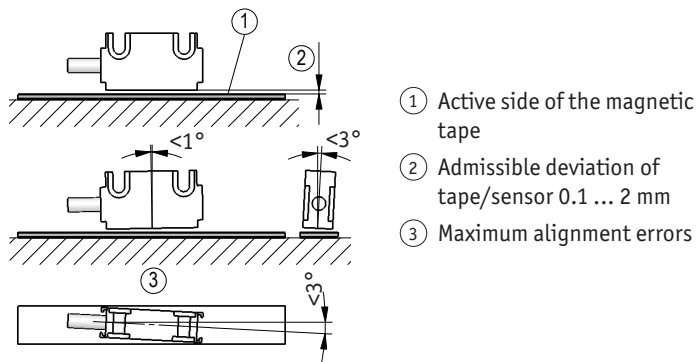
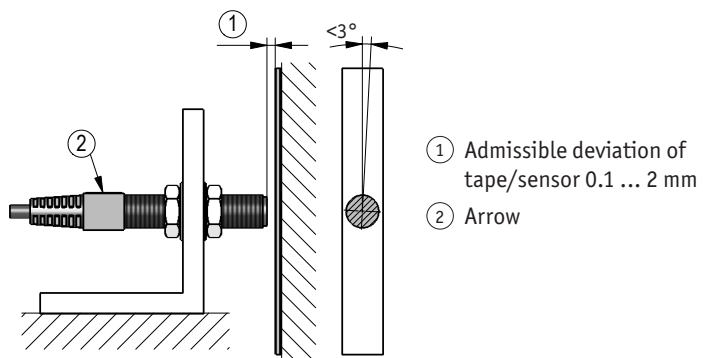

Fig. 6: Mounting sensor / magnetic tape, gap measure, tolerances
Fig. 7: Mounting sensor / magnetic tape, gap measure, tolerances
- Take care that the magnetic sensor is aligned correctly in order to ensure optimum sensing (see Fig. 6, Fig. 7).